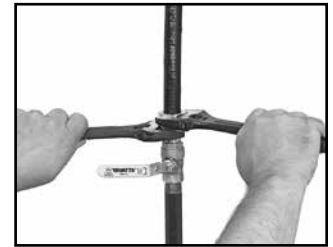

Fig. 4-8
**STEP 5 WRENCH FITTING (FIG. 4-8)**